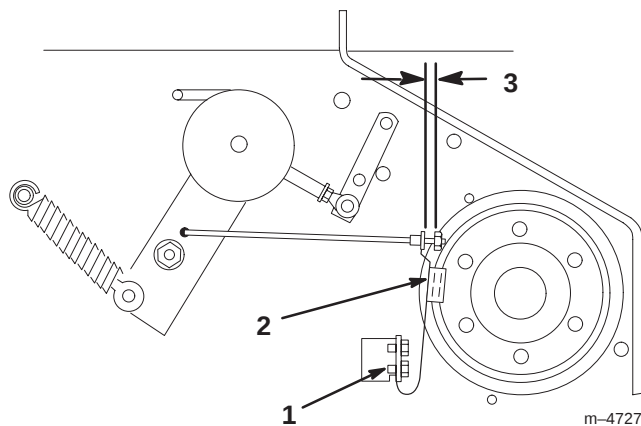

Figure 50
2. If necessary, adjust the spring mounting bolts so that the blade brake pad rubs against the pulley edges (Fig. 50).
- Adjust the nut at the end of the blade brake rod until there is 1/8–3/16 in. (3mm–5mm) between the nut and spacer (Fig. 50).